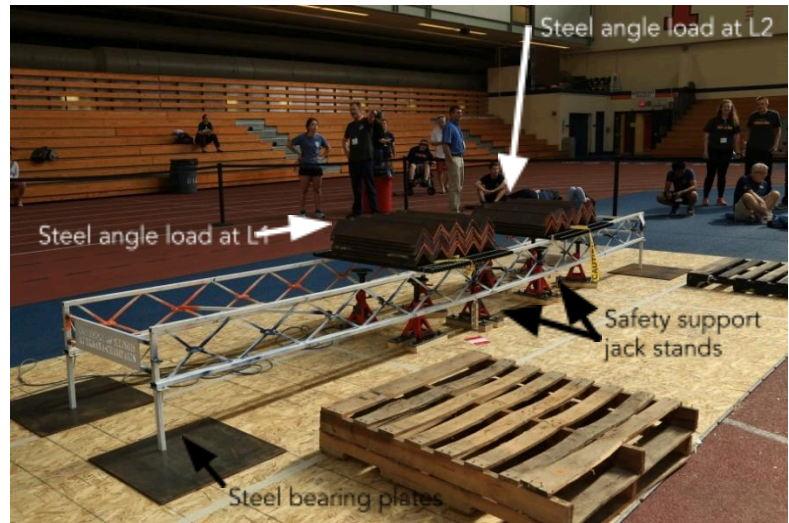

Figure 1. Bridge at vertical load station.
1. Figure 1 shows a bridge under vertical load.